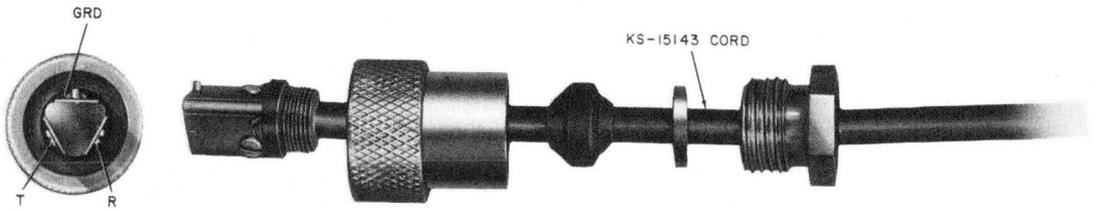

Fig. 52—KS-8419 Plug (MD)
H. KS-8419 Plug (MD)
3.08 The KS-8419 plug (Fig. 52) is a 3-contact, brass plug intended for connecting telephone sets installed on boats, trains, or auto trailers to outdoor jacks of PBX or CO lines. This plug is intended for use with KS-8420 jacks.